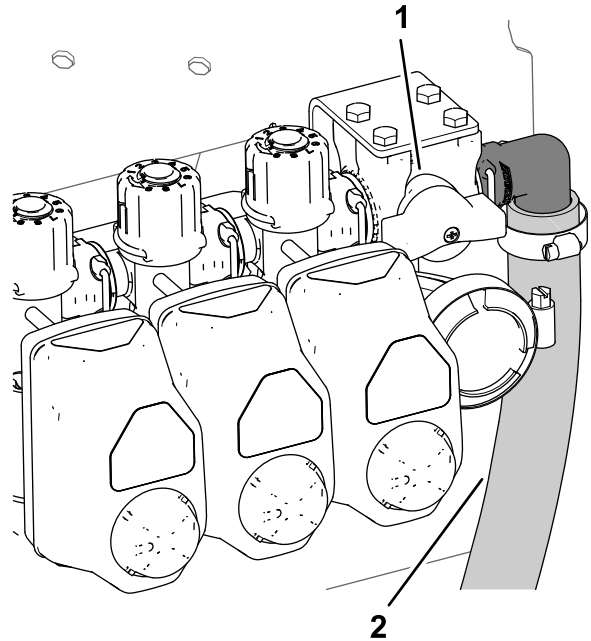
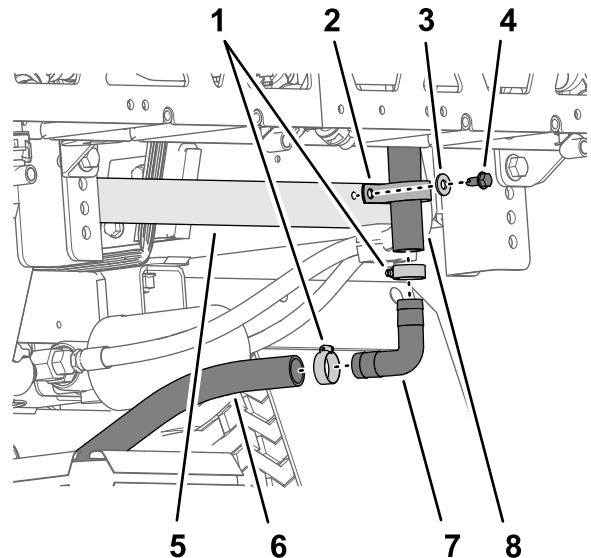

Figure 40
Figure 41
1. At the lower end of the upper bypass hose, remove the flange-head bolt (5/16 x 3/4 inch), washer (5/16 inch), and R-clamp that secures the upper bypass hose to the rear-saddle plate of the machine (Figure 40 and Figure 41).
2. Remove the 2 hose clamps that secure the upper bypass hose and the lower bypass hose to the 90° barbed fitting (Figure 41).
3. Remove the 90° barbed fitting from the hoses (Figure 41).